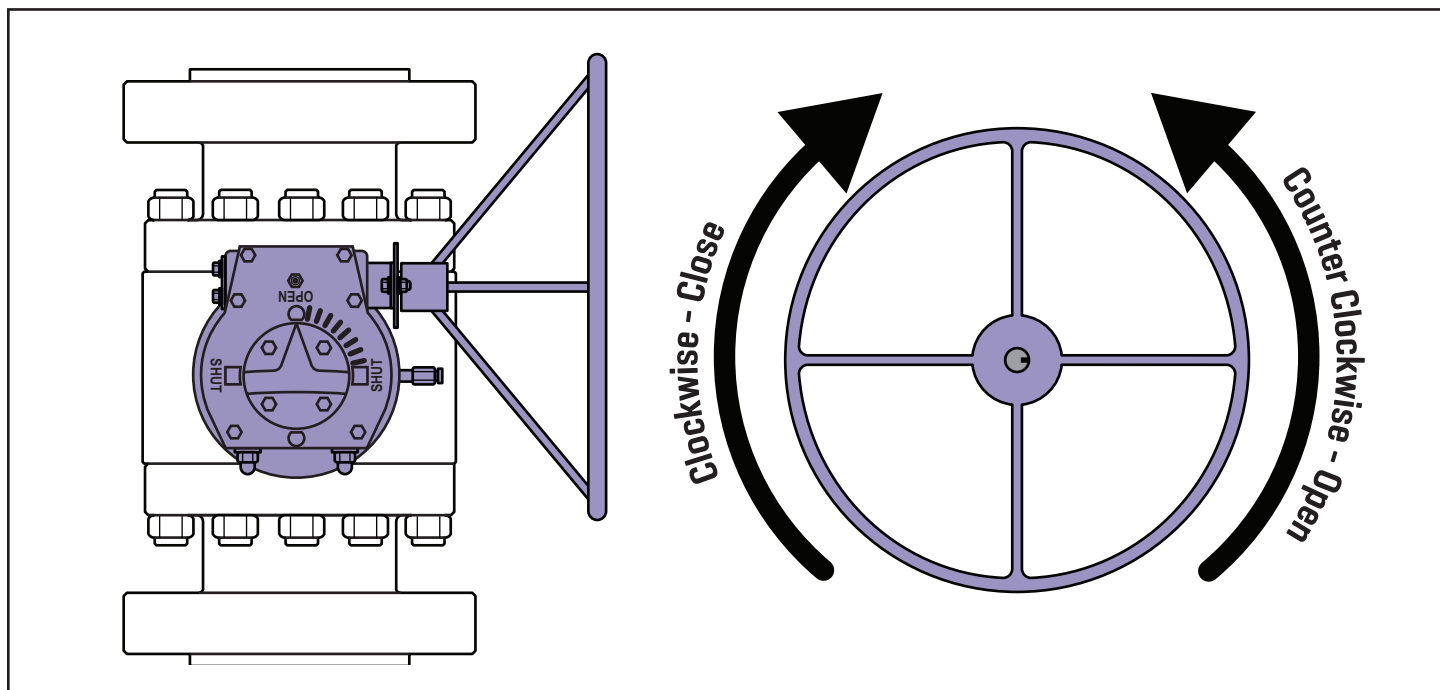

Figure 4.1
- For gear operated valves, THE GEARBOX OPEN/CLOSE ADJUSTMENT HAS BEEN MADE PRIOR TO DISPATCH AND MUST NOT BE DISTURBED. Rotation of hand wheel in the clockwise direction closes the valve. Counter clockwise rotation opens the valve [looking from the hand wheel end.] The internal details/construction of gearbox may vary as per manufacturer's standard. [Figure 4.1]